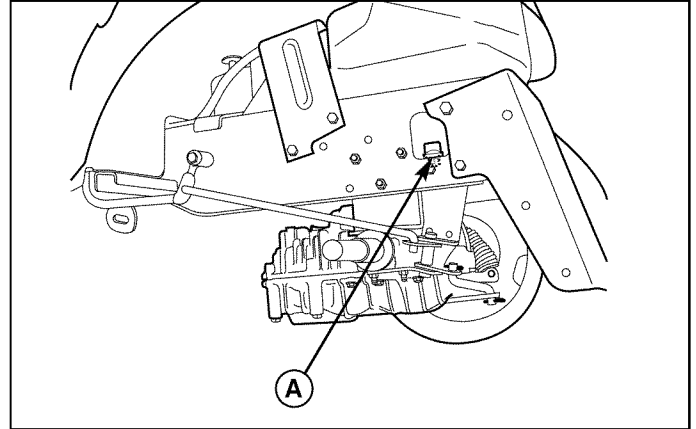

Figure 37. Differential Fill Plug Access
NOTE: Support the frame with jackstands and remove the left rear wheel for easier access to the differential fill plug (Figure 37).
7. Using a long funnel, add 2 quarts of oil to the differential fill (See Figure 37). The differential fill cap should have been removed earlier).
8. Reinstall the differential fill cap (A, Figure 37).